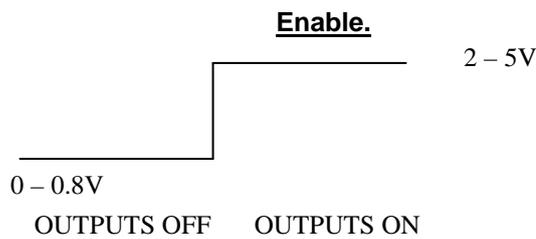

Figure 4.
- b. **Digit 8**: - **Enable** control: see **figure 4** for further details.